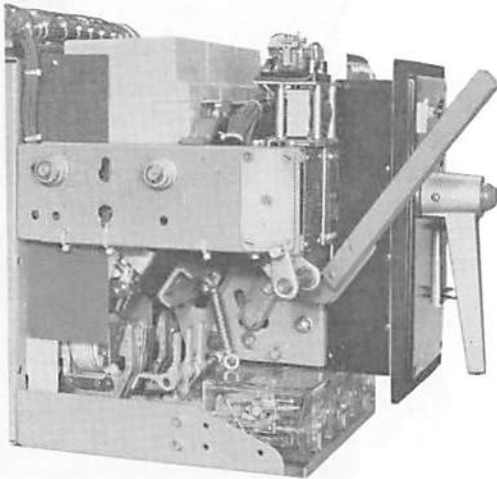

Figure 5
5. Insert maintenance closing handle #1151-9252 as in Figure 5 and slowly operate until arcing contacts touch. All arcing contacts should make simultaneously with a permissible variation of 1/32 max. Moveable arcing contact fingers should align with stationary arcing contacts.